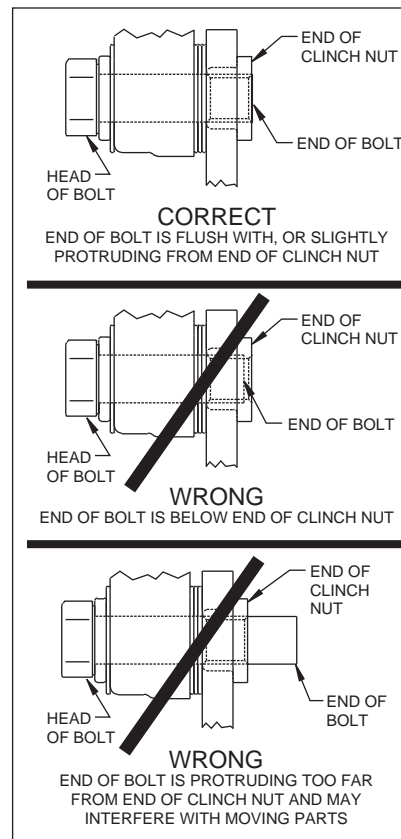

Figure 5.
Assembly Instructions (numbers in parenthesis refer to the part list/diagram on the preceding page): **CAUTION:** All mounting bolts must fully engage insert nuts. Be sure to check that all bolts are either flush or protruding through flanged side of insert nut after shimming, Figure 5.
- With the slot pointing upward and the mounting ears pointing towards the rear of the vehicle, install the caliper mounting bracket (1) to the housing flange using the stock Original Equipment Manufacturer (OEM) bolts and nuts. Stock OEM hex nuts that retain the bracket (1) should be on the wheel side of the bracket. Apply red *Loctite*® 271 to the stock OEM bolt threads and torque to OEM specifications. **NOTE:** Some brackets act as the bearing retainers, while others help locate the bearing in the axle housing flange. If the stock bearing plates are still on the axle, the caliper mounting brackets (1) should be located between the axle housing flange and the bearing retainer plate. Make sure the heads of the caliper mounting bracket insert nuts are FACING OUTWARD TOWARDS THE WHEEL.
- Bolt the hat (2) to the rotor (3) using washers (4) and bolts (5). Torque bolts (5) to 180 in-lb. Safety wire bolts (5) using standard 0.032 inch diameter stainless steel safety wire as shown in Figure 5. Please refer to Wilwood's data sheet DS-386 (available at www.wilwood.com/Pdf/DataSheets/ds386.pdf) for complete safety wire installation instructions.
- Align the correct hole pattern in the hat (2) with the stud pattern on the axle flange. **NOTE:** Some OEM and after market axles come with stud sizes larger than 0.50" diameter. Verify stud size and have a qualified machine shop drill the hats to the correct size. Slide the hat/rotor assembly (2 and 3) over the wheel studs and against the axle flange face.
- NOTE:** Please reference the caution statement at the beginning of the assembly instructions. WITH THE BLEED SCREWS POINTING UP, mount the caliper (6) over the rotor (3) and onto the caliper mounting bracket (1) using washers (7) and mounting bolts (8). View the rotor through the top opening of the caliper. The rotor should be aligned in the center of the caliper. If not, adjust the caliper by using 0.032 inch shim washers (9), placing them between the caliper mounting bracket (1) and the caliper (6). Add as many shim washers (9) as necessary to achieve the correct alignment. **NOTE:** The end of the bolt must be flush with or slightly protruding from the head of the clinch nut. See Figure 5. Place spare shims (9) between washer and caliper mounting ear to achieve the proper mounting fastener configuration. Always use the same amount of shims on both the top and bottom caliper mounting bolts (8). Apply red *Loctite*® 271 to the mounting bolt threads (8), torque bolts to 30 ft-lb. Safety wire the caliper mounting bolts (8).
- Position the Wilwood disc brake pads (10) into the caliper (6) and fasten with cotter pin (11). Steel backing plate side of brake pad should face the caliper pistons.